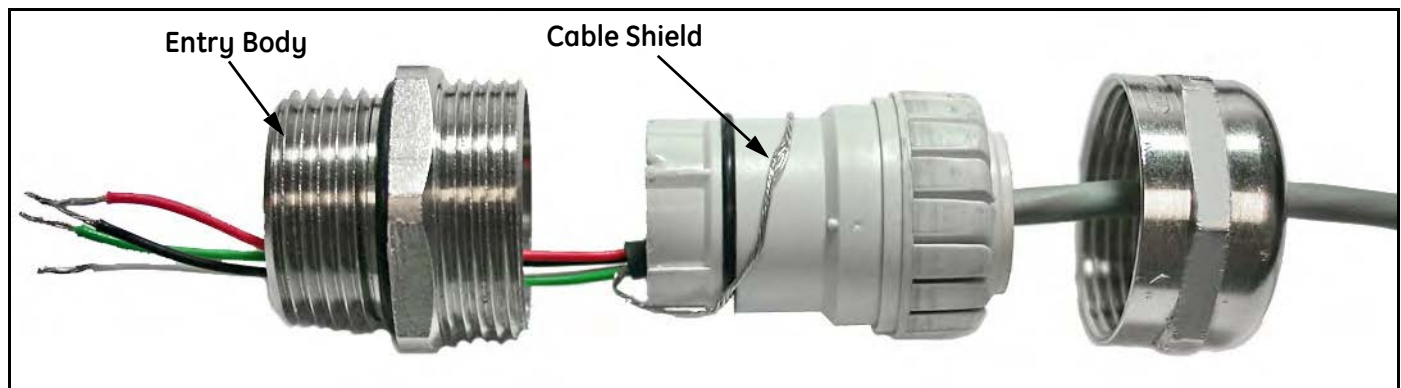

Figure 89: Proper Cable Gland Assembly (GE p/n 419-215)
- b. Route the 4-wire power/analog output cable through the cable gland as shown in *Figure 89* below.
IMPORTANT: *The cable shield must be terminated in the cable gland as shown in Figure 89 below.*
- b. Route the 3-wire RS232 cable through the cable gland as shown in *Figure 89 on page 95*.
IMPORTANT: *The cable shield must be terminated in the cable gland as shown in Figure 89 on page 95.*